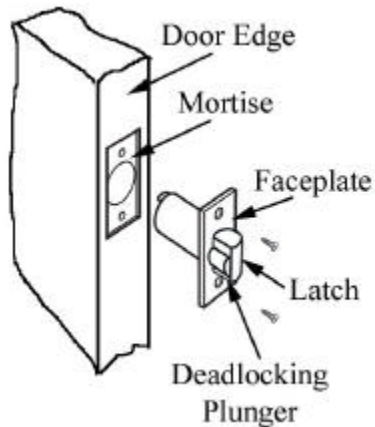
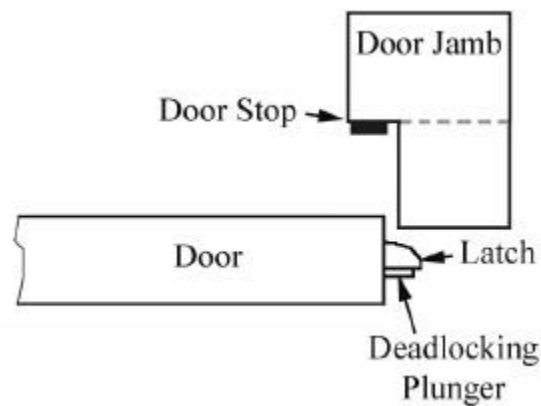

Figure 2-10 – Mortising Latch on Door Edge
Figure 2-11 – Latch Orientation on Door Edge
- 2.8.1 If not already done, mortise the edge of the door to accommodate the Latch & Faceplate (Figure 2-10).
- 2.8.2 Making certain that the Latch is properly oriented (**Note: The Deadlocking Plunger of the Latch must face away from the Door Stop of the Door Jamb**, Figure 2-11.), install the Latch & Faceplate with the two screws provided (Figure 2-10).